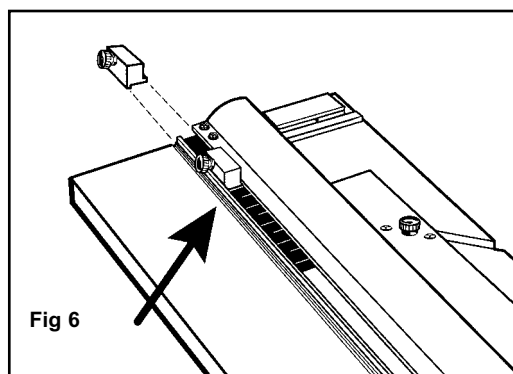

Fig 6
2. Insert the production stop into the guide rail as shown and set at the 2" mark. Fig. 6